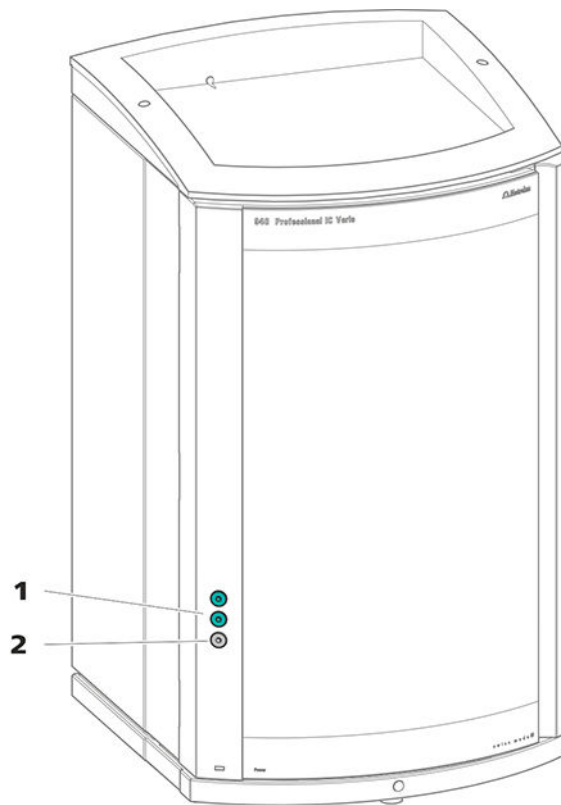

Figure 3 Feed-throughs on the door
- Openings on the door (*see figure 3, page 14*)